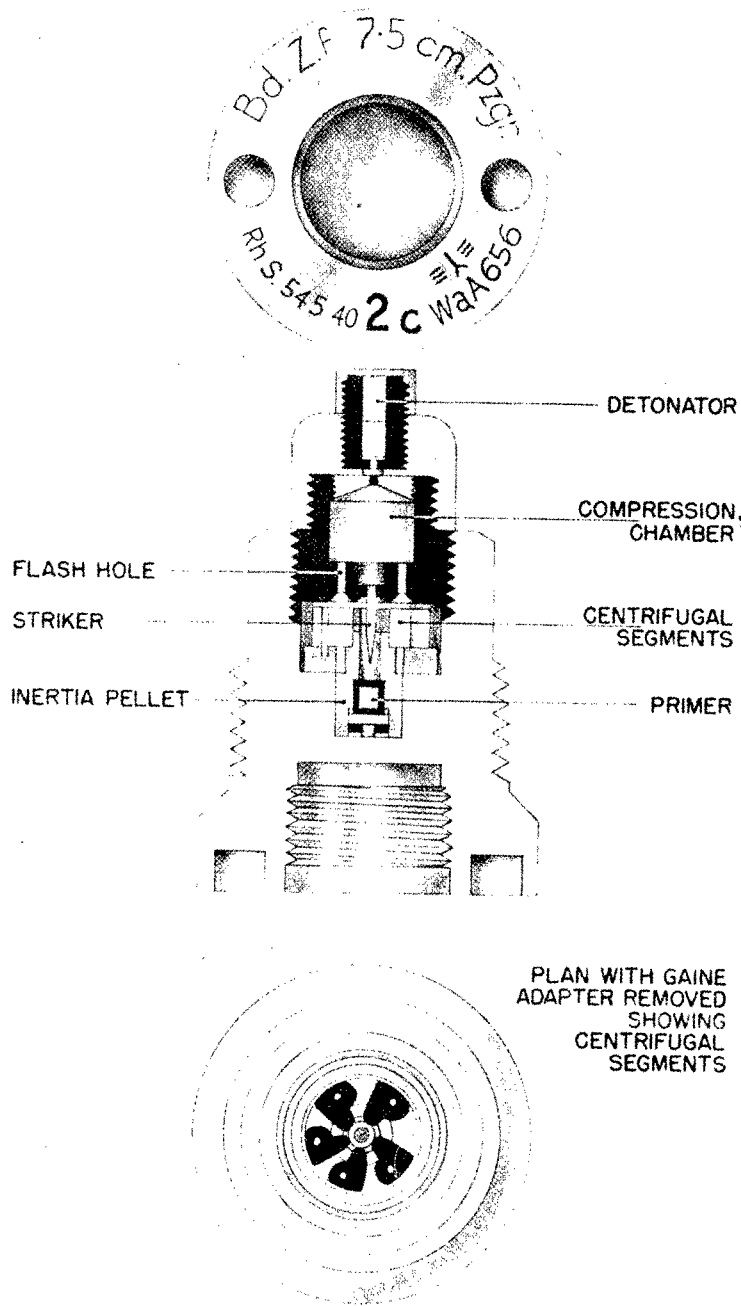

Figure 608—Bd. Zf. 7.5 cm-Pzgr. (Large Cavity)
**EMPLOYMENT:** Mechanical Impact Base Fuze used in German 7.5-cm A. P. C. shells. (See fig. 608.)